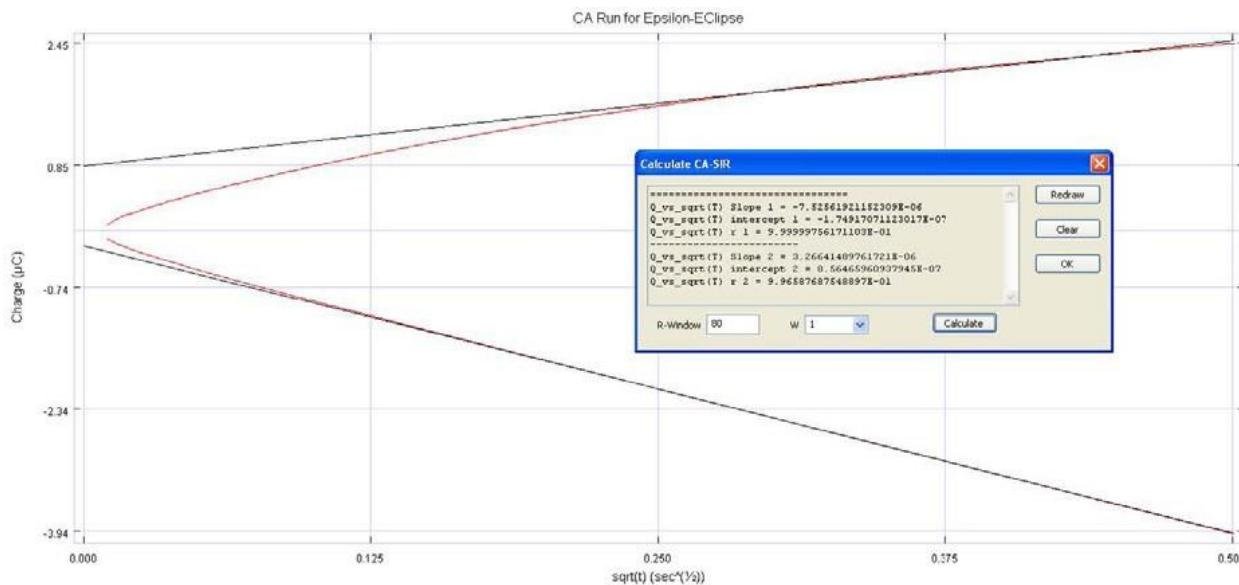

Figure 12 - Calculation of slope and intercept of linear plot
13. The Epsilon EClipse™ software can calculate the slope and intercept of the linear **Q vs \sqrt{T}** plot when it is displayed. Selecting **Calculate CA-SIR** from the Analysis menu generates the information box shown in **Figure 12**. The lines used for the linear fitting are the dashed blue lines in **Figure 12** (note that the first 20% of the data points are not used in the calculation, due to interference from the charging current and other experimental artifacts).